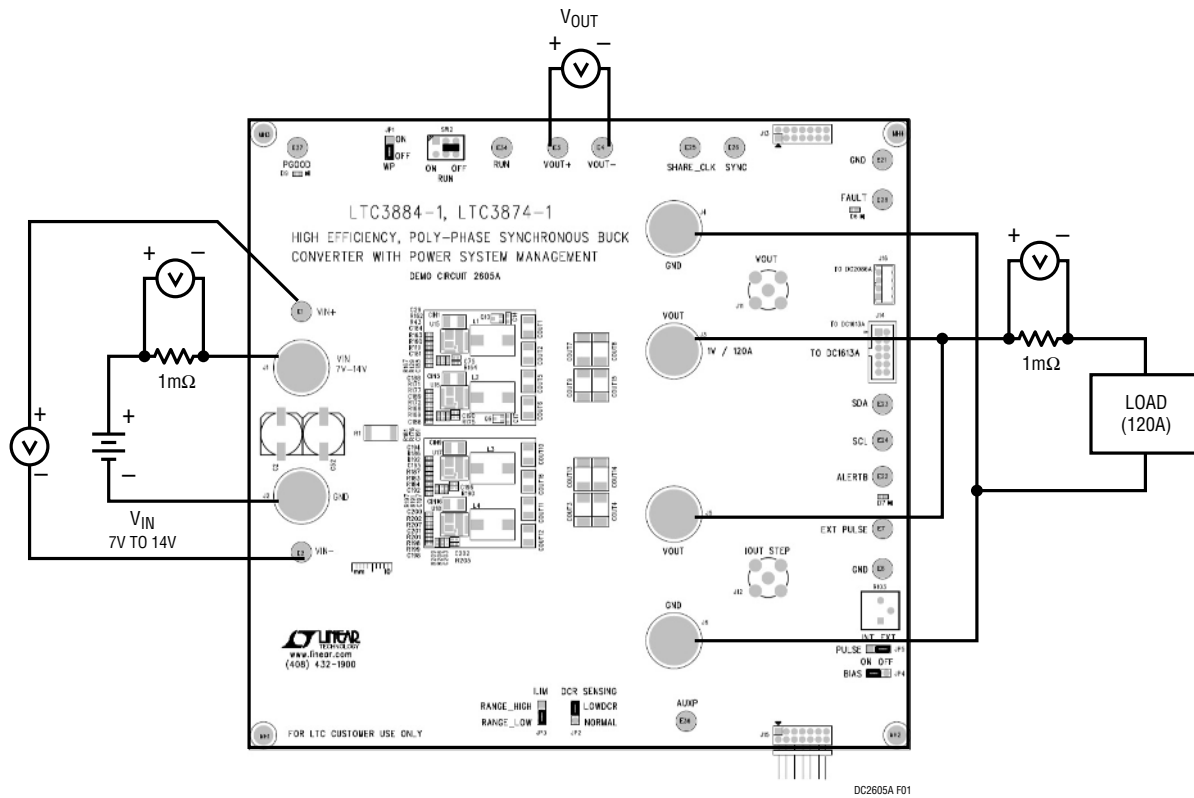

Figure 1. Proper Measurement Equipment Setup
Demonstration circuit 2605A is easy to set up to evaluate the performance of the LTC3884-1. Refer to Figure 1 for the proper measurement equipment setup and follow the procedure below.
2. Connect the output loads between V_{OUT} and GND (Initial load: no load). Refer to Figure 1.